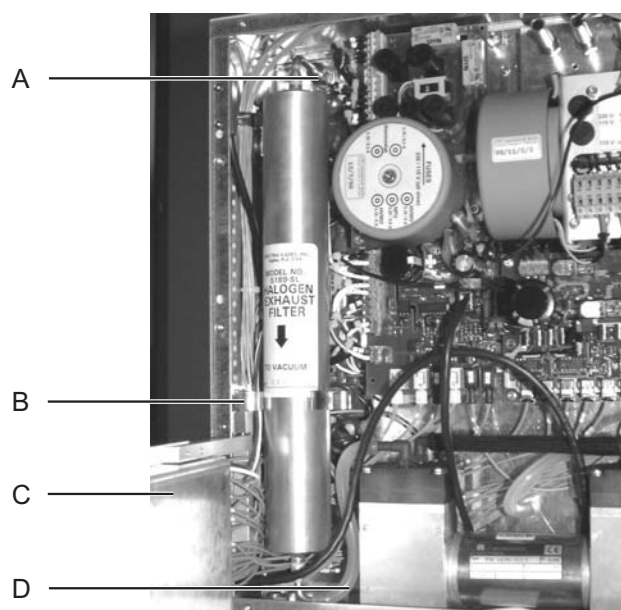

Figure 60: Halogen filter exchange
4. Turn the laser control unit to the left side out of the laser device (see Figure 60, C).
5. Unscrew and remove the nut situated at the top of the halogen filter cartridge (Figure 60, A).
6. Carefully pull the halogen filter towards you so that it is released from the retaining clip (Figure 60, B).
7. Disconnect the flexible tube from the connection at the bottom of the halogen filter cartridge (Figure 60, D).